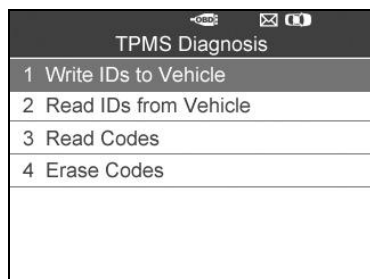

Figure 3.19
1. From the **TPMS Diagnosis** screen, use **UP/DOWN** scroll button to select the **Write IDs to Vehicle** function item. (Figure 3.19) Wait a few seconds while the tool retrieves the VIN information from the vehicle.
1. From the **TPMS Diagnosis** screen, use **UP/DOWN** scroll button to select the **Read IDs from Vehicle** function item. (Figure 3.19)
1. From the **TPMS Diagnosis** screen, use **UP/DOWN** scroll button to select the **Read Codes** function item. (Figure 3.19)
1. From the **TPMS Diagnosis** screen, use **UP/DOWN** scroll button to select the **Erase Codes** function item. (Figure 3.19)